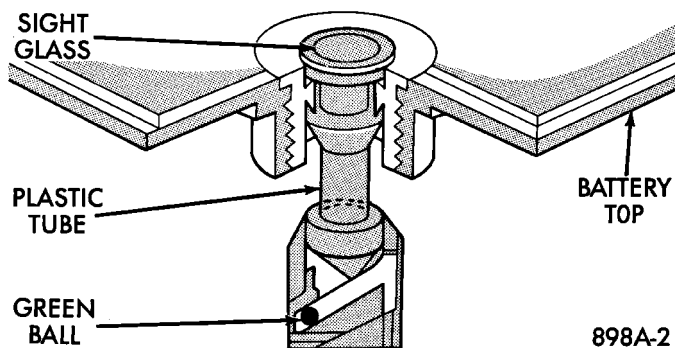

Fig. 4 Test Indicator
The Test Indicator (Fig. 2), (Fig. 3) and (Fig. 4) measures the specific gravity of the electrolyte. Specific Gravity (SG) of the electrolyte will show state-of-charge (voltage). The test indicator WILL NOT show cranking capacity of the battery. Refer to Battery Load Test for more information. Look into the sight glass (Fig. 2), (Fig. 4) and note the color of the indicator. Refer to the following description of colors: